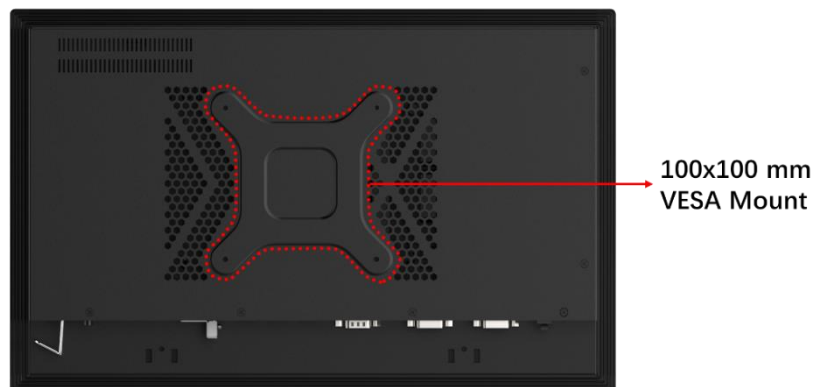

Figure 3-26: Arm Mounting Retention Screw Holes
Step 3: Align the retention screw holes on the mounting arm interface with those in the PPC2-Cxxx-ADL Series panel PC. The arm mounting retention screw holes of the PPC2-Cxxx-ADL Series panel PC are shown in **Figure 3-26**.